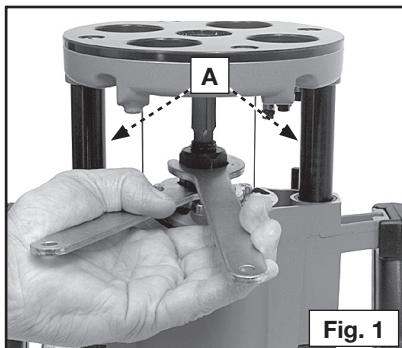

Fig. 1
1. Place the router upside down on its motor cap (see Fig. 1).
3. Place one wrench on the flats on the chuck and one wrench on the collet nut (see Fig. 1). Tighten firmly.
**CAUTION** Do not allow the wrenches to contact the columns (A) Fig. 1. If the columns are damaged, the plunge action will be restricted.